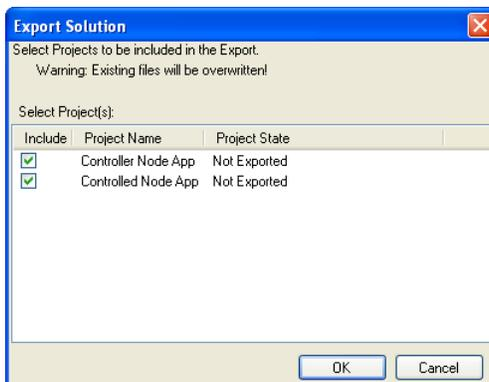

Figure 2-13. Export BeeKit Project Solution Window
1. From the Solution menu, select Export Solution. BeeKit verifies the internal consistency of the configuration, looking for such errors as two endpoints with the same number. If the verification succeeds, the window that opens displays all the created devices, each with a checked box as shown in Figure 2-13.